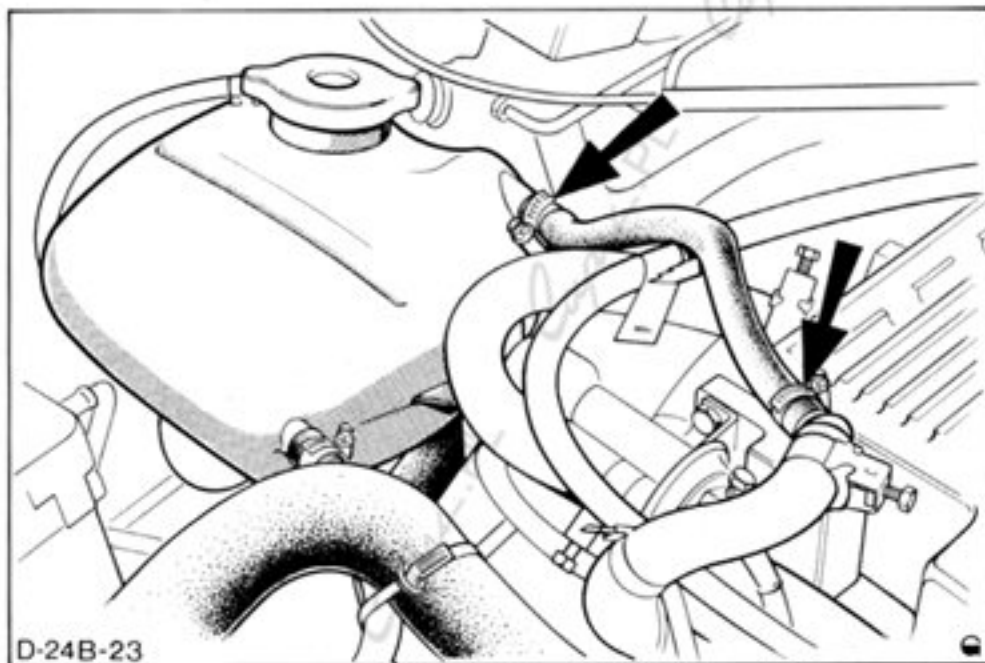

Fig.32. Degas tank to air box connector hose connections.
4. Loosen hose clamps and detach hose from degas tank and elbow connector, Fig.32.